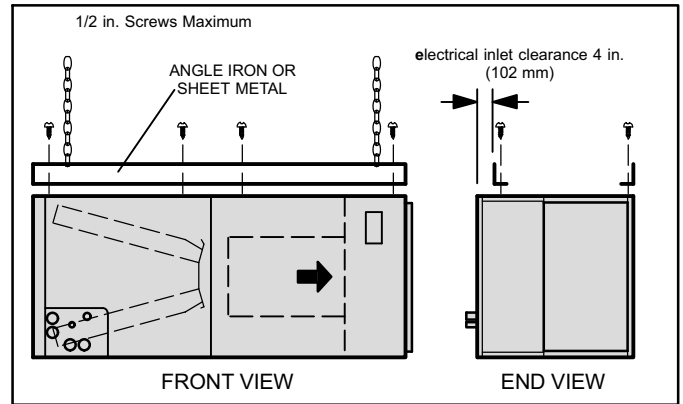

Figure 3. Suspending Horizontal Unit
4. If the unit is suspended, the entire length of the cabinet must be supported. If you use a chain or strap, use a piece of angle iron or sheet metal attached to the unit (either above or below) to support the length of the cabinet. Use securing screws no longer than 1/2" to avoid damaging the coil or filter as illustrated in figure 3. Use sheet metal screws to connect the return and supply air plenums as required.
14. If suspending the unit, it must be supported along the entire length of the cabinet. If using chain or strap, use a piece of angle iron or sheet metal attached to the unit (either above or below) so that the full length of the cabinet is supported. Use securing screws no longer than 1/2" to avoid damage to coil or filter. as illustrated in figure 3 on page 5. Connect return and supply air plenums as required using sheet metal screws.